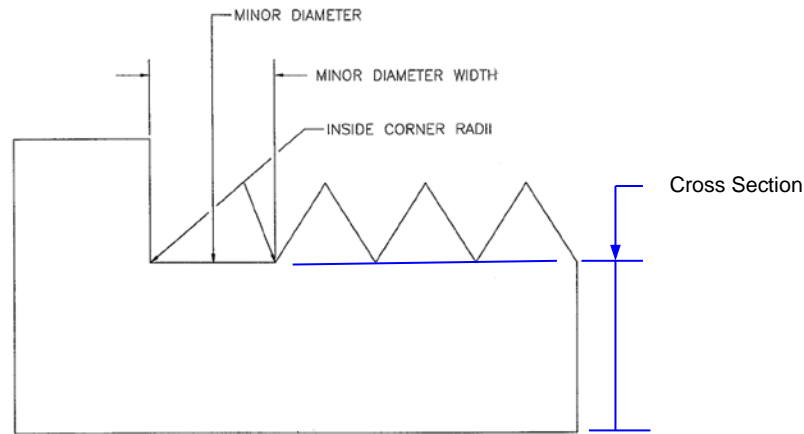

Figure 2 External Thread Dimensions
- 6. External Threads (see Figure 2):